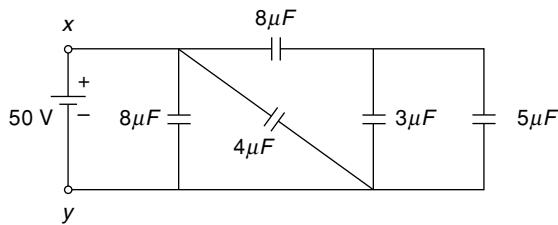

Fig. 1.24 Network of capacitances of Ex. 1.10
1.10 Find the equivalent capacitance across terminals $x-y$ in Fig. 1.24. Also find the time to charge the capacitances by a direct current of 10A.